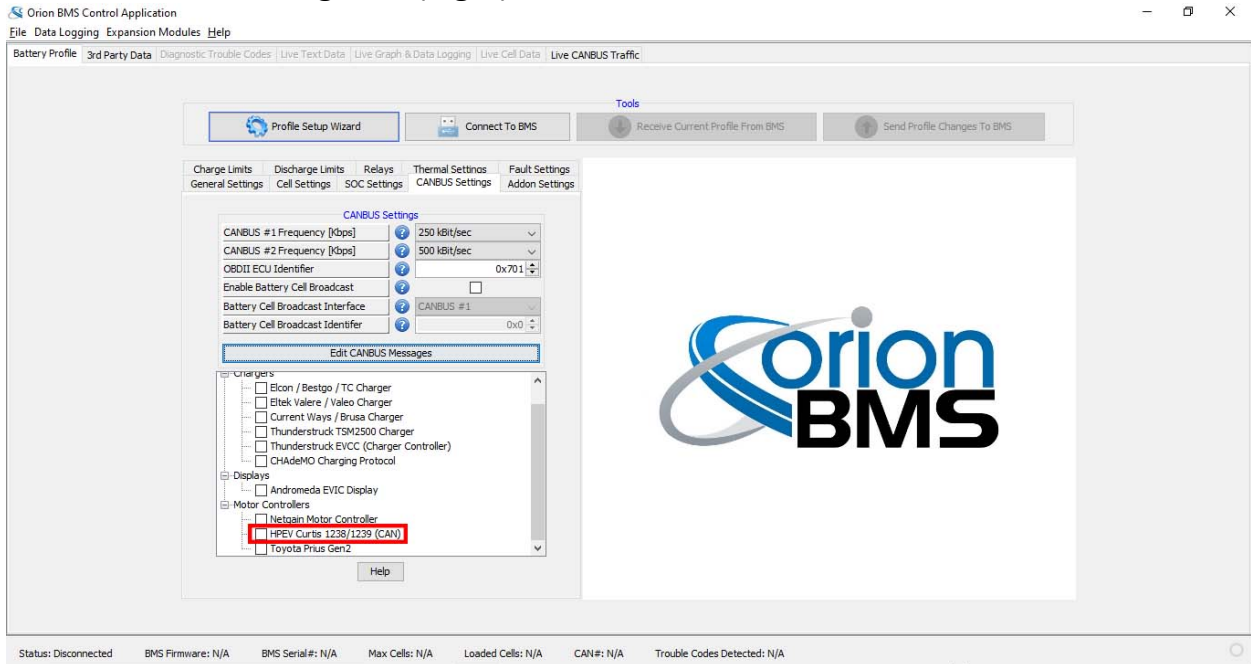

Fig. 3
- Verify that the checkbox next to “HPEV Curtis 1238/1239 (CAN)” has been checked. The checkbox is located in the “Enable CANBUS Third Party Devices” dialog box. (Fig.3)